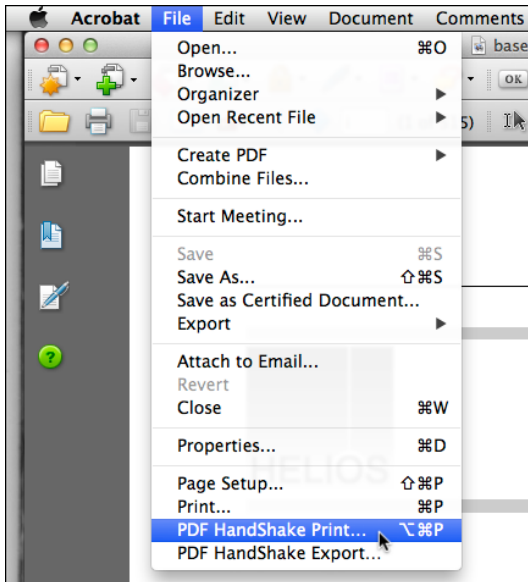

Fig. 7.1: Selecting PDF HandShake Print... from the menu
- Start your Acrobat application. The PDF HandShake Print dialog is opened from the File menu as shown in Fig. 7.1.